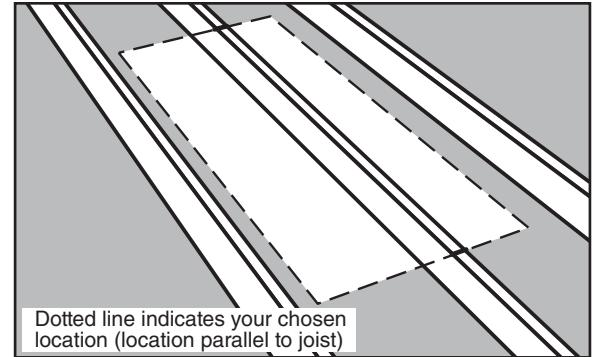

FIGURE 7
- (A) If the chosen location is parallel to the joists, mark the rough opening length on top of the joists (See Figure 7).